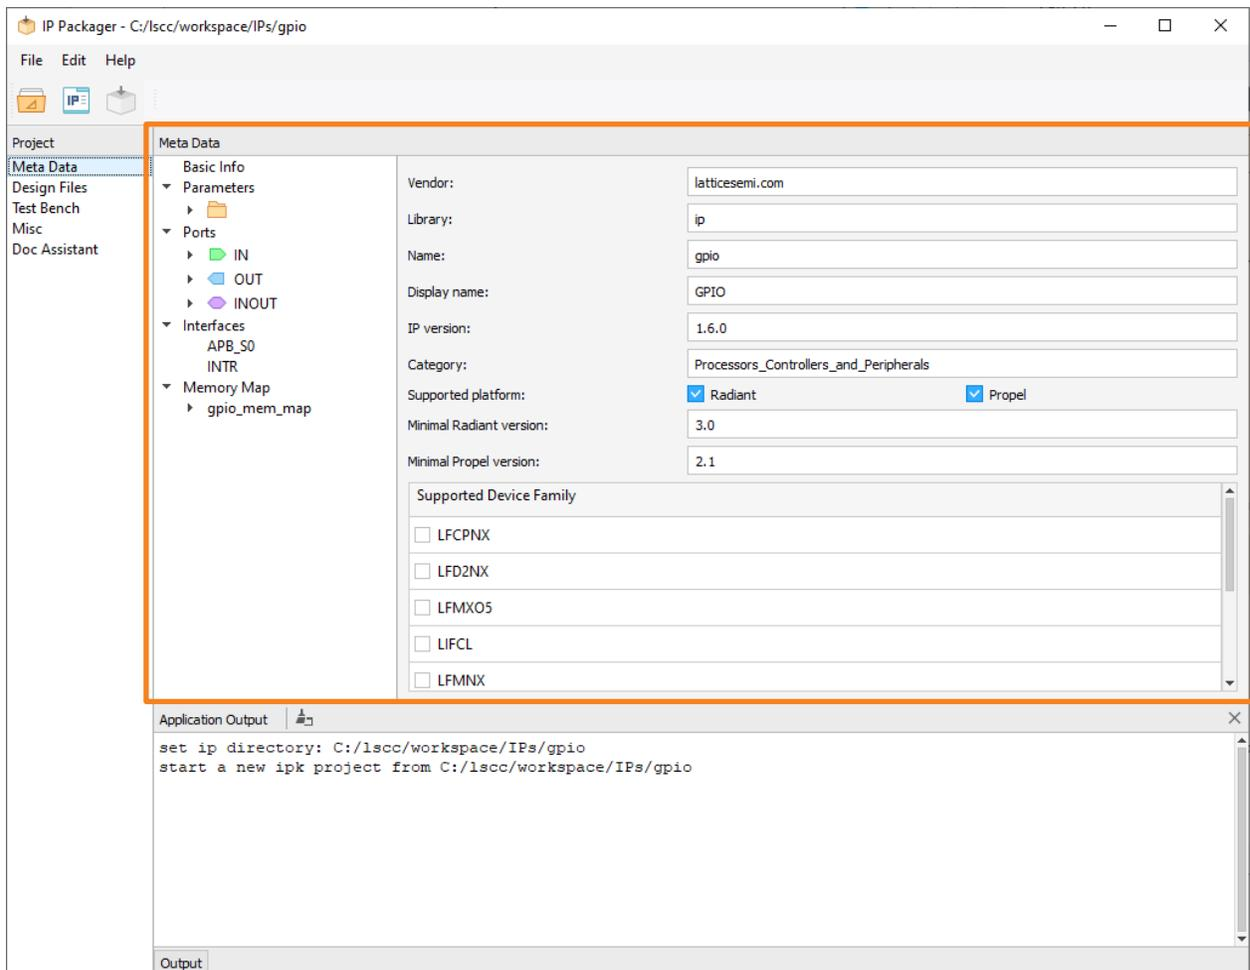

Figure 3.6. IP Packager with Meta Data Details
1. From the IP Packager Project area, click **Meta Data**. The IP Packager GUI shows Meta Data information in detail (Figure 3.6).